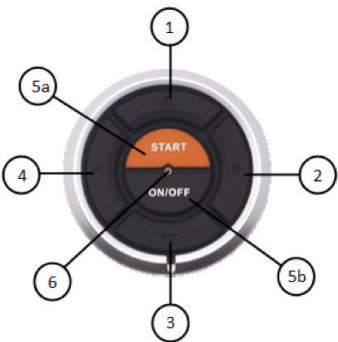

Figure 4: Start Panel
7.	The green LED on the Start Panel (fig. 4, 6) will start to blink quickly.
**If you want to cancel the process and keep the old PIN code, press and release the ON/OFF button (fig. 4, 5b) instead of confirming the change by pressing the START button.**
3.	Press and hold the START button (fig. 4, 5a) on the Start Panel.
2.	Press and release the ON/OFF button (fig. 4, 5a) on the Start Panel, turning the ignition to ON.
3.	Press and hold the START button (fig. 4, 5a).
AUX 1 is controlled by arrow keys (fig. 4, 1 and 3) above and below the START/ON/OFF buttons on the Start Panel. The side arrow keys (fig. 4, 2 and 4) on each side of the START/ON/OFF buttons on the Start Panel control AUX 2 (not included unless purchased separately). The AUX functions can also be controlled from the Master FOB.
Unlock the Start Panel by entering your PIN code and pressing the ON/OFF button (figure 4, 5b), or pressing Start from the Master FOB.
1.	Enter the PIN code by pressing and releasing the number buttons (fig. 4, 1-4).
3.	Within 60 seconds, press and release the ON/OFF (fig. 4, 5b) button to turn on the ignition.
2.	Press and release the ON/OFF button to activate the ignition (fig. 4, 5b).
1.	Press and release the ON/OFF button (Fig. 4, 5b).
1.	Press and hold one of the numbered keys, 1 to 4 (Fig. 4, 1 to 4) to start that engine: 1 = engine number 1 2 = engine number 2 3 = engine number 3 4 = engine number 4
1.	Press and hold one of the numbered keys, 1 to 4 (Fig. 4, 1 to 4) to stop the engine: 1 = engine number 1 2 = engine number 2 3 = engine number 3 4 = engine number 4
2.	Press and hold one of the numbered keys, 1 to 4 (Fig. 4, 1 to 4) to start that engine: 1 = engine number 1 2 = engine number 2 3 = engine number 3 4 = engine number 4
1.	Press and hold the arrow key (fig. 4, 1 - 4) for the desired connected function.